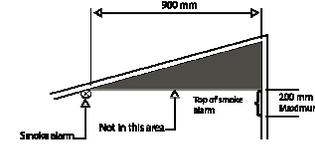

Figure 5: Recommended locations to mount Smoke Alarms in rooms with sloped, gabled, or peaked ceilings.
- If some of your rooms have sloped, peaked, or gabled ceilings, try to mount Smoke Alarms 3 feet (0.9 meter) measured horizontally from the highest point to the ceiling as shown in Figure 5.